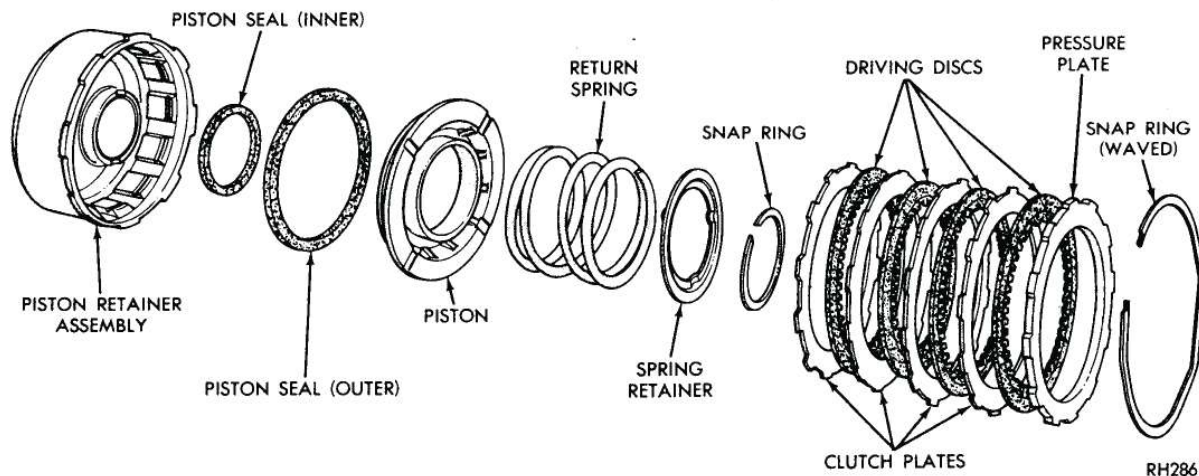
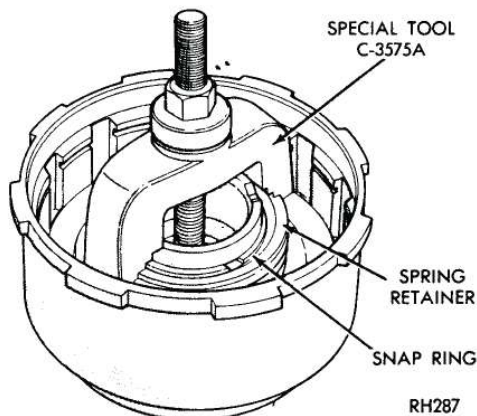
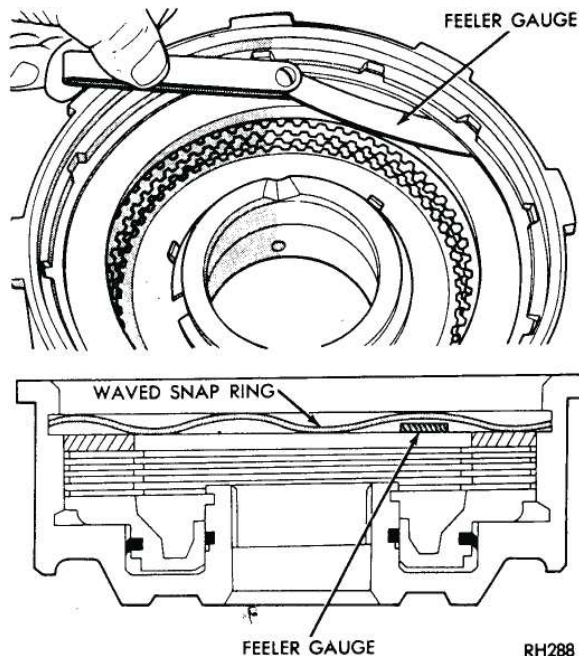
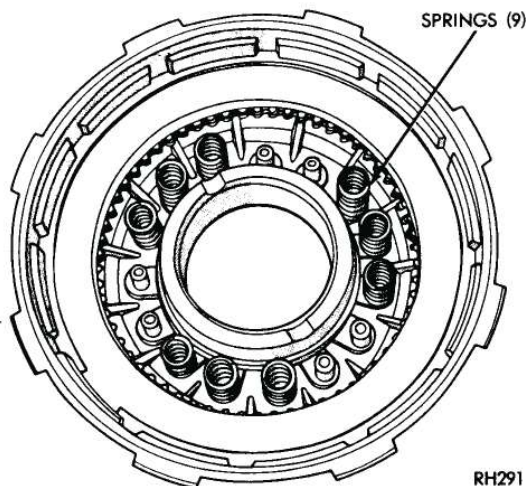

Fig. 18—Front Clutch (A-904T and A-999)
Fig. 19—Front Clutch Spring Retaining Snap Ring (A-904T and A-999)
Fig. 21—Measure Front Clutch Plate Clearance
Fig. 25—Front Clutch Spring Location (9 Springs)
Figure 18 shows a disassembled view of the front clutch assembly.
(1) Remove large waved snap ring that secures pressure plate in the clutch piston retainer. Lift pressure plate and clutch plates out of the retainer.
(2) Install compressor Tool C-3575A, over piston spring retainer (Fig. 19). Compress spring and remove snap ring, then slowly release tool until spring retainer is free of the hub. Remove tool, retainer, and spring.
(3) Invert clutch retainer assembly and bump it on a wooden block to remove the piston. Remove seals from the piston and clutch retainer hub.
- (1) Lubricate and install inner seal on hub of clutch retainer. Make sure lip of seal faces down and seal is properly seated in the groove (Fig. 18).
- (2) Install outer seal on the clutch piston, with lip of seal toward bottom of clutch retainer. Apply a coating of wax type lubricant or Door Ease to outer edge of seals and press seal to bottom of its groove around piston diameter for easier installation of piston assembly. Place piston assembly in retainer and carefully seat piston in bottom of retainer.
- (3) Place spring on piston hub and position spring retainer and snap ring on the spring. Compress spring with Tool C-3575A (Fig. 19), and seat snap ring in hub groove. Remove compressor tool.
- (4) Lubricate all clutch plates, install one steel plate followed by a lined plate (disc) until the number given in specifications is installed. Install pressure plate and snap ring. Make sure snap ring is properly seated.
- (5) Insert a feeler gauge between pressure plate and waved snap ring to measure maximum clearance where snap ring is waved away from pressure plate (Fig. 21). See "Specifications" for allowed clearance.
(1) Lubricate and install inner seal on hub of clutch retainer. Make sure lip of seal faces down and seal is properly seated in the groove.
(2) Install outer seal on the clutch piston, with lip of seal toward bottom of clutch retainer. Apply a coating of wax type lubricant or Door Ease to outer edge of seals and press seal to bottom of its groove around piston diameter for easier installation of piston assembly. Place piston assembly in retainer and carefully seat piston in bottom of retainer.
(3) Refer to "Specifications" and install proper number of springs on piston exactly as shown in Figure 25 or 26. Position spring retainer and snap ring over the springs. Compress springs with Tool C-3863-A (Fig. 23), and seat snap ring in hub groove. Remove compressor tool.
(4) Lubricate all clutch plates, install one steel plate followed by a lined plate (disc) until the number given in specifications is installed. Install pressure plate and snap ring. Make sure snap ring is properly seated.
(5) Insert a feeler gauge between pressure plate and waved snap ring to measure maximum clearance where snap ring is waved away from pressure plate (Fig. 21). See "Specifications" for allowed clearance.